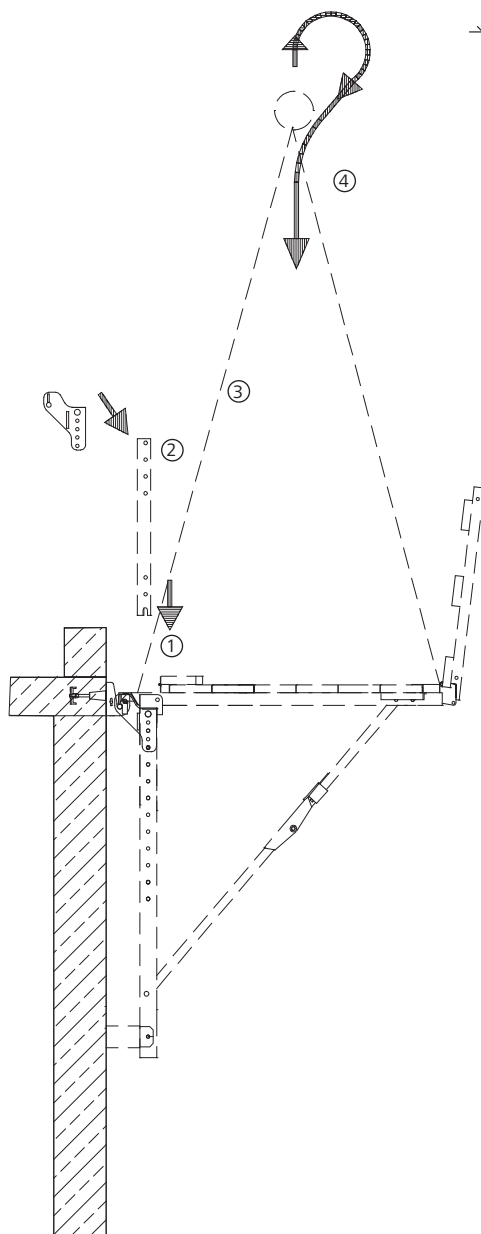

Fig. 14.1
The steps 1, 2, 3, etc. in the following instructions also refer to the numbers in Fig. 14.1.
1. The folding plank must be folded up as depicted in Fig. 14.1.
4. Move the platform to the desired location (Fig. 14.1).